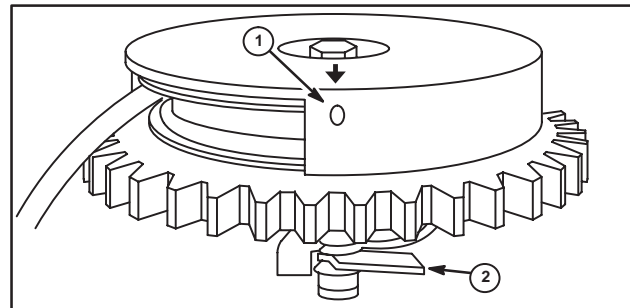
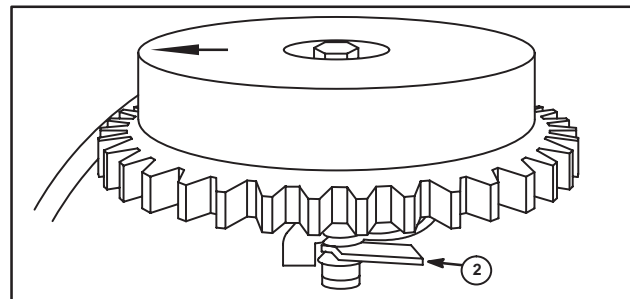

Fig. 31
Fig. 32
13. Locate Cover (Starter Handle on Top): Turn cover clockwise until "O" or "Arrow" on cover (1) is in line with starter shaft cam (2), Fig. 31. Locate Cover (Starter Handle and Rope Come Out Rope Guide on Cylinder Head): Turn cover clockwise until "O" or "Arrow" is 90° from cam on starter shaft, Fig. 32.